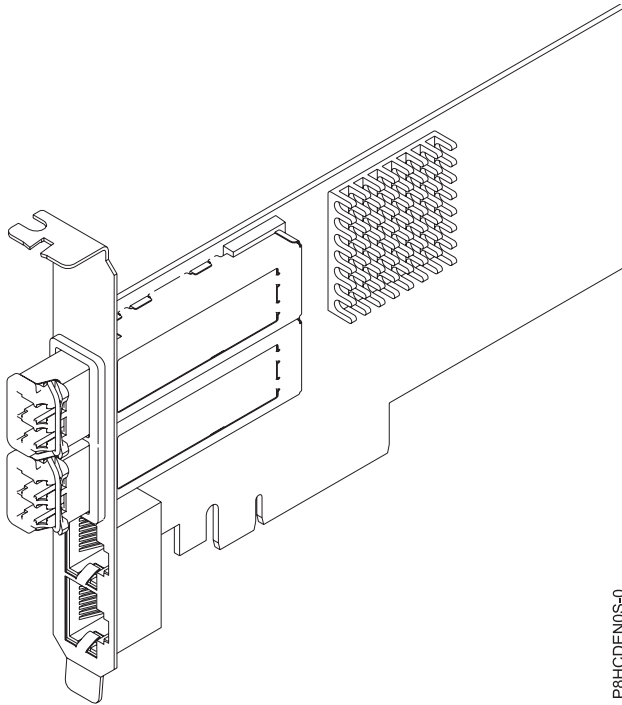

Figure 10. FC ENOS adapter
The four-port adapter provides two 10 Gb small form-factor pluggable (SFP+) optical SR transceiver ports and two 1 Gb RJ45 Ethernet ports. The two 10 Gb SR ports have little connector (LC) duplex-type connectors. The optical transceiver uses shortwave laser optics and is attached with MMF-850nm fiber cabling with LC connectors. See “Cables” on page 27 for more information about the optical cables. Each 10 Gb port provides Ethernet connectivity with a nominal data rate of 10 Gbps (gigabits per second). Figure 10 on page 27 shows the FC EN0S adapter.